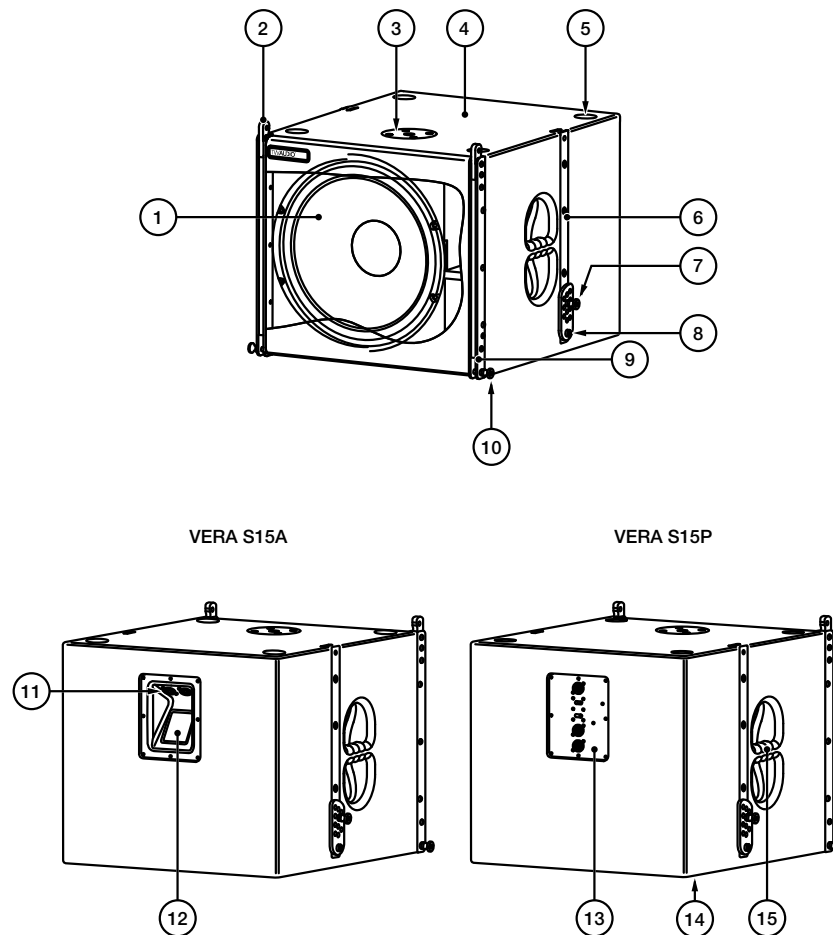

Figure 2.1 - Overview
The VERAS15P model can also be operated in the „PASSIVE 1“ and „PASSIVE 2“ modes. This permits the connection of an additional loudspeaker on the high-pass output or the link output when operating with only one amplifier channel. The installed passive cross-over (pos.13 “Figure 2.1 - Overview” on page 7) has two selector switches, which are described in the following section.
Make sure that the maximum load of 50kg / 110lbs for the M20 pole mount flange is not exceeded! Figure 2.1 – Item 2.
The M20 pole mount flange (figure 2.1- item 2) is not designed for side forces once mounted – do not apply any pressure from the sides.
Please note that only centered loads are allowed to be placed on the M20 pole mount flange – Figure 2.1 – Item 2.